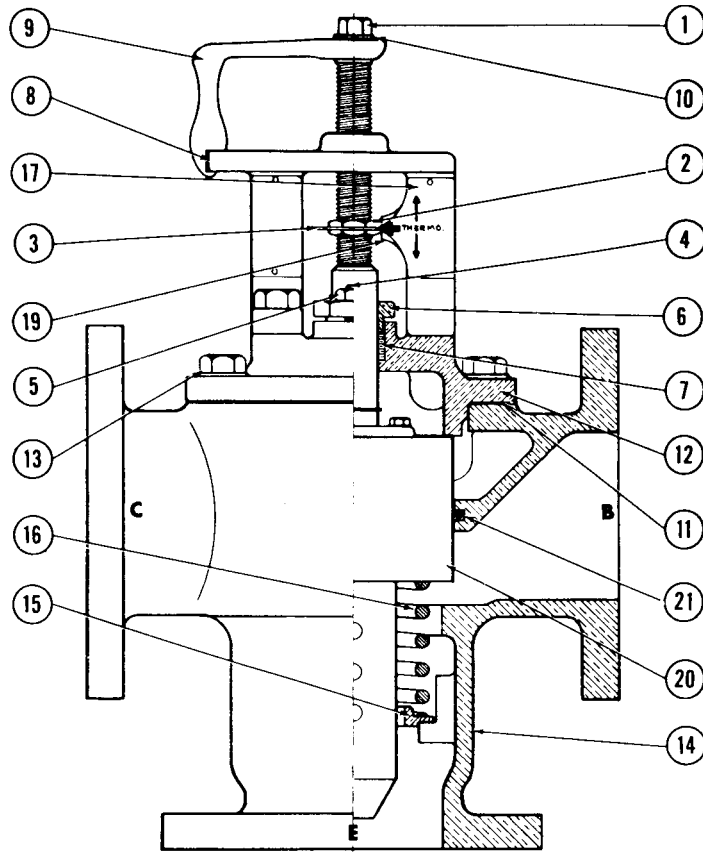

Figure 4
completely closed off. (See Figure 4.)
5. Reassemble as shown in Figures 4 through 10, depending on valve size.